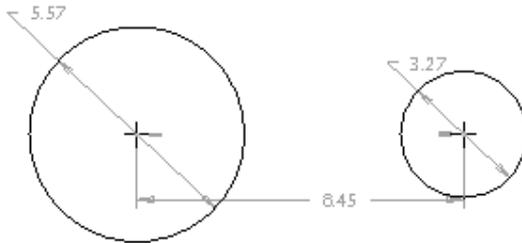

Figure 2-34 Two circles with weak dimensions and constraints
- b. Draw the sketch by using the sketcher tools, refer to Figures 2-34 through 2-37.
Figure 2-34 shows the two collinear circles drawn by using the **Center and Point** tool.